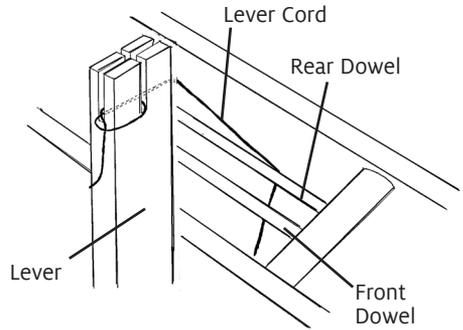
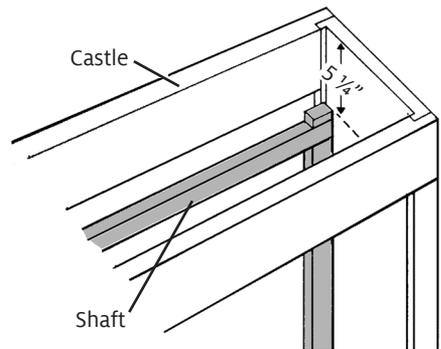

FIGURE 4: LEVERS
FIGURE 5: SHAFTS/CASTLE
7. Insert the shafts back into the castle from the bottom of the castle. Put the shaft levers in the up position. Attach the shaft lever cords to the levers (see Figure 4). Note: you can determine which lever you want tied up to the first shaft (i.e. the right side or the left side) at this time. On 4 shaft looms the cords from the first and second shafts go over the front small dowel in the top of the castle behind the levers. The cords from the third and fourth shafts go over the rear small dowel. Similarly on 8 shaft looms the first and second cords go over the front dowel, the third and fourth go over the second dowel, the fifth and sixth go over the third dowel, and the seventh and eighth go over the rear dowel. Adjust the shafts to a height of $5\frac{1}{4}$ " below the top of the castle. This measurement is from the top of the harness side to the top of the castle (see Figure 5).